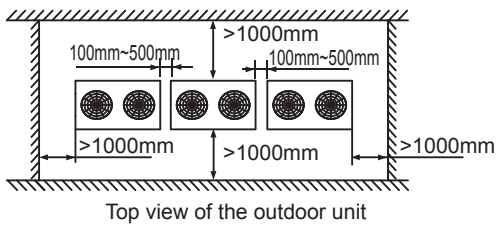

Fig.4-8
- When installing the unit, leave space for maintenance, as shown in Fig.4-8. Install the power supply at the side of the outdoor unit. For the installation procedure, see the Installation manual for the power supply device.